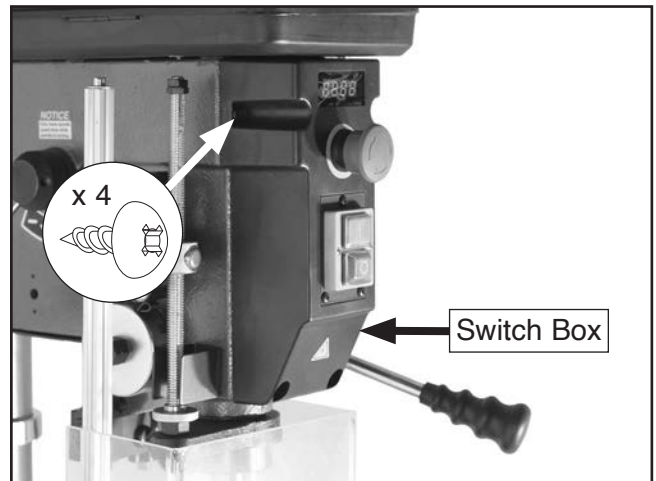

Figure 83. Location of switch box and securing screws.
- Remove (4) tap screws shown in **Figure 83** to remove switch box from headstock.